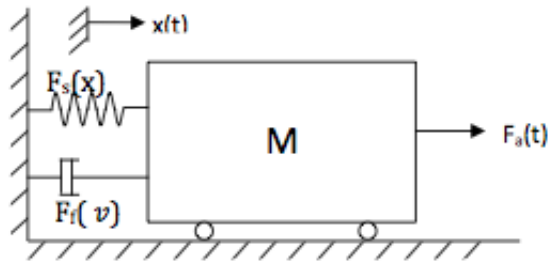

Figure 2: Mass-Spring System
Consider the following Mass-Spring system shown in Fig. 2. Where $F_s(x)$ is the spring force, $F_f(\dot{x})$ is the friction coefficient, $x(t)$ is the displacement and $F_a(t)$ is the applied force:
- [1 point] Using Newton's Law, obtain the dynamic equations of the Mass-Spring system model showed in Figure 2. Consider: